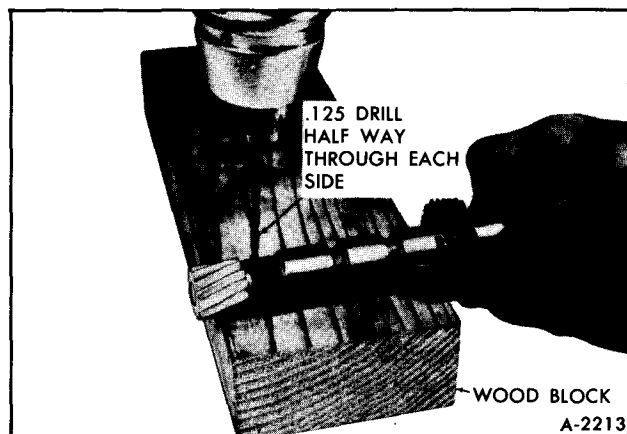

Figure 105—Drilling Governor Gear Shaft
6. Place governor sleeve on a block of wood and with a 1/8" drill, drill half way through each side of gear; drill through existing hole. See Figure 105.